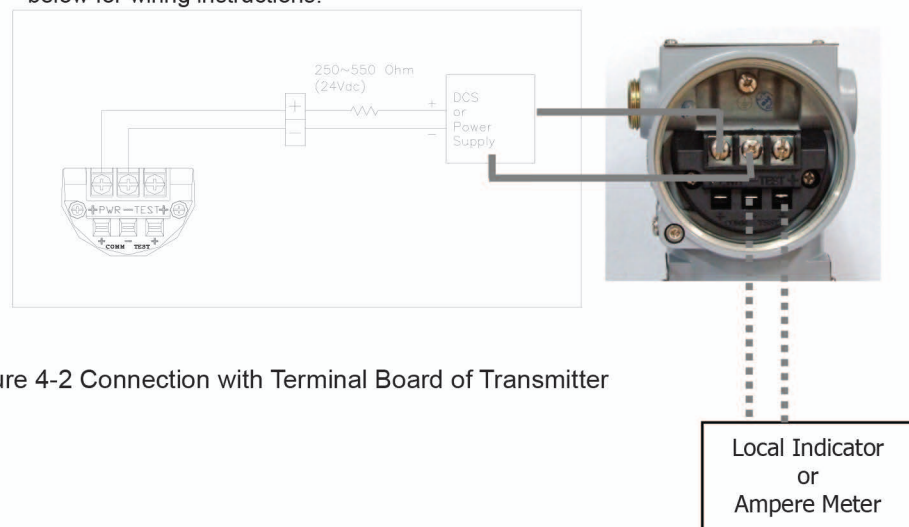

Figure 4-2 Connection with Terminal Board of Transmitter
- (1) Open the housing cover indicated "FIELD TERMINAL". NOTE: For hazardous environments do not open the covers when transmitter is powered and circuits are live.
- (2) Connect the power supply in the terminal indicated "+PWR"(left terminal) and "-" power supply in the central terminal. Do NOT connect "+" power supply in "+" terminal of the point indicated "TEST". It will be damage to test diode used to connecting TEST terminal.
- (3) Seal and close unused Conduit Connections to protect transmitters from severe humidity and explosive gases from entering into the terminal box compartment.
- (4) Avoid running Signal Wiring near AC or High Power Lines. In case of ground signal, ground the signal loop's on one side making sure other side is not grounded.
- (5) Ensure loose contacts are eliminated and proper wiring connections are maintained.
- (6) After wiring replace transmitter cover. In case of explosion proof areas, you must to satisfy all requirements to maintain certification requirements.
- (7) Do not supply high voltage AC power into transmitter leads as it can cause permanent damage to transmitter.
- (8) Use surge protectors to protect transmitter from external power surges.
- (9) Ensure you have a 250~600 W Loop Resistor in Current Loop (between Power Supply and Transmitter) for proper HART® Communication. Follow Figure 4-2 below for wiring instructions.